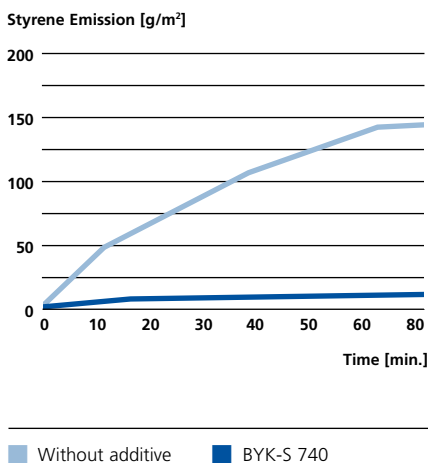

figure 15
**BYK-S 740** combines paraffin wax with a specifically developed adhesion promoter, thereby ensuring good styrene emission reduction with excellent interlaminar adhesion (figure 15).